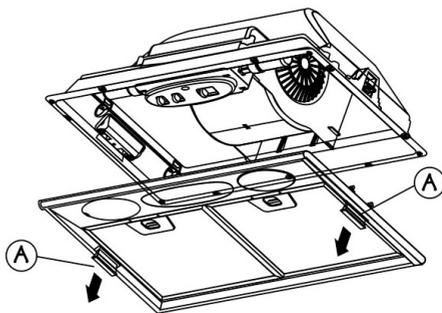

Figure 1
Dismantle the ducting support by pulling the two knobs (A) (fig. 1) simultaneously:
- Dismantle the ducting support by pulling the two knobs (A) (fig. 1) simultaneously to remove the ducting grill.